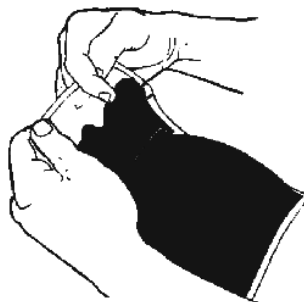

Figure 8
- 4.3 Alternately squeeze ends of pouch forcing compound rapidly back and forth, strip compound from corners of pouch between fingers. Mix until color is completely uniform – 30 to 40 VIGOROUS SQUEEZES. DO NOT EXCEED 1 MINUTE. (Figure 8)